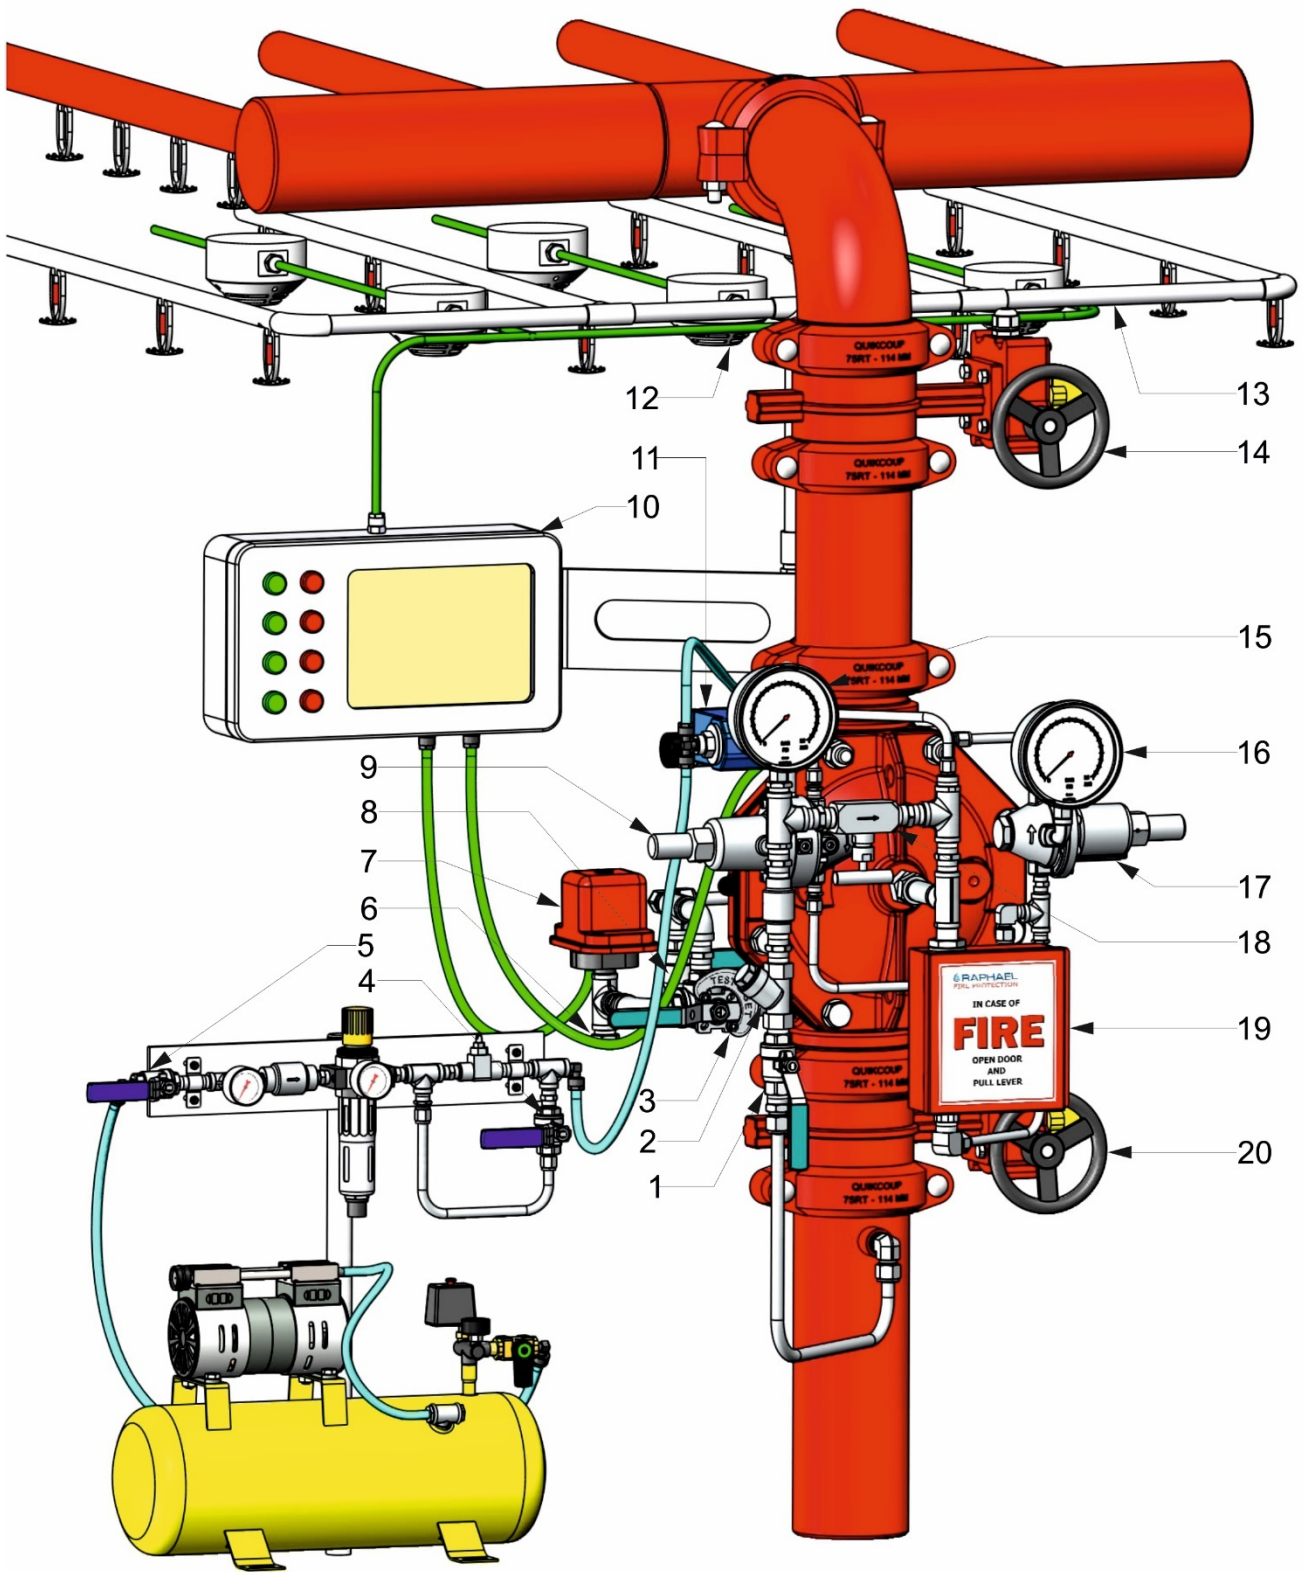

Fig. 2
Installation (Reference Figure 2)
8. All connections to water and air supply, should be done in accordance with figure 2
(reference - figure 2)
The procedure described should be carried out after system installation completion and a comprehensive inspection. (Reference Drawing - figure 2)
Fire Situation Simulation (Reference Drawing - figure 2)
(Reference drawing - figure 2)
Resetting & placing in service (Reference Drawing - figure 2)